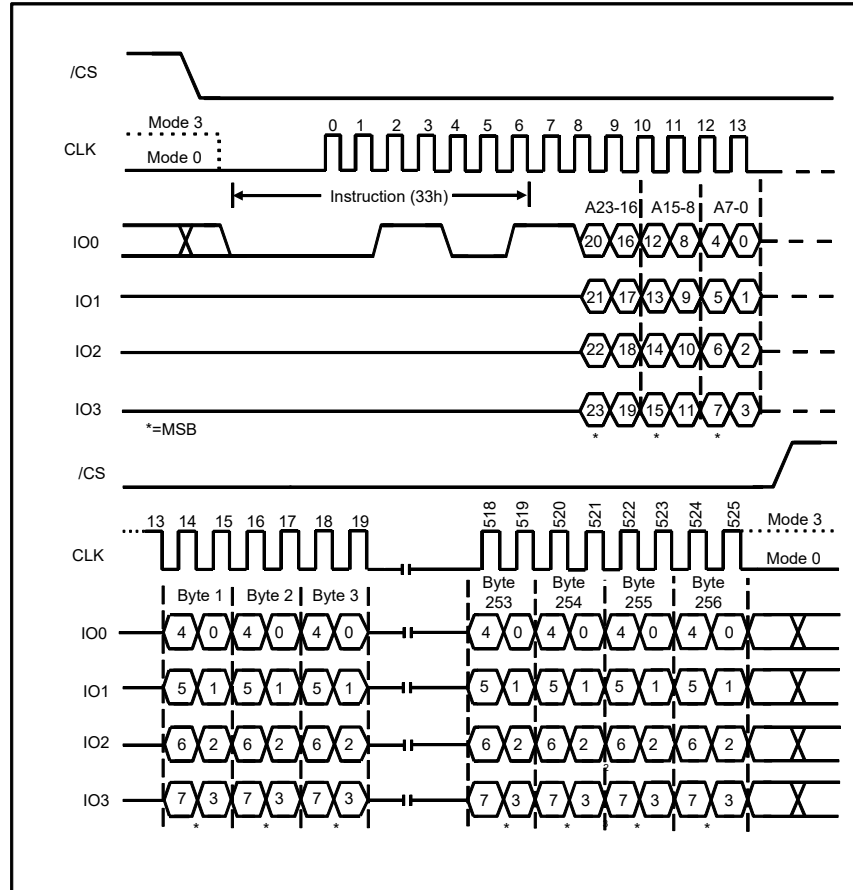

Figure 31. Quad Page Program Instruction (SPI Mode only)
with faster clock speed will not realize much benefit for the Quad Page Program instruction since the inherent page program time is much greater than the time it take to clock-in the data. To use Quad Page Program the Quad Enable (QE) bit in Status Register-2 must be set to 1. The Quad Page Program instruction sequence is shown in Figure 31.